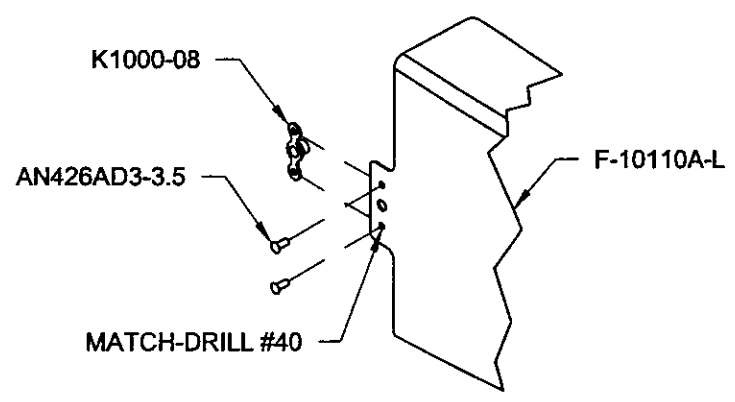

FIGURE 1: ATTACHING THE NUTPLATE
Step 1: Match-Drill, deburr and dimple the F-10110A-L Wire Cover for the nutplate rivets called out in Figure 1. Prime the wire cover and the F-10110B-L Clip as desired. Rivet the nutplate onto the wire cover using the hardware called out in Figure 1.